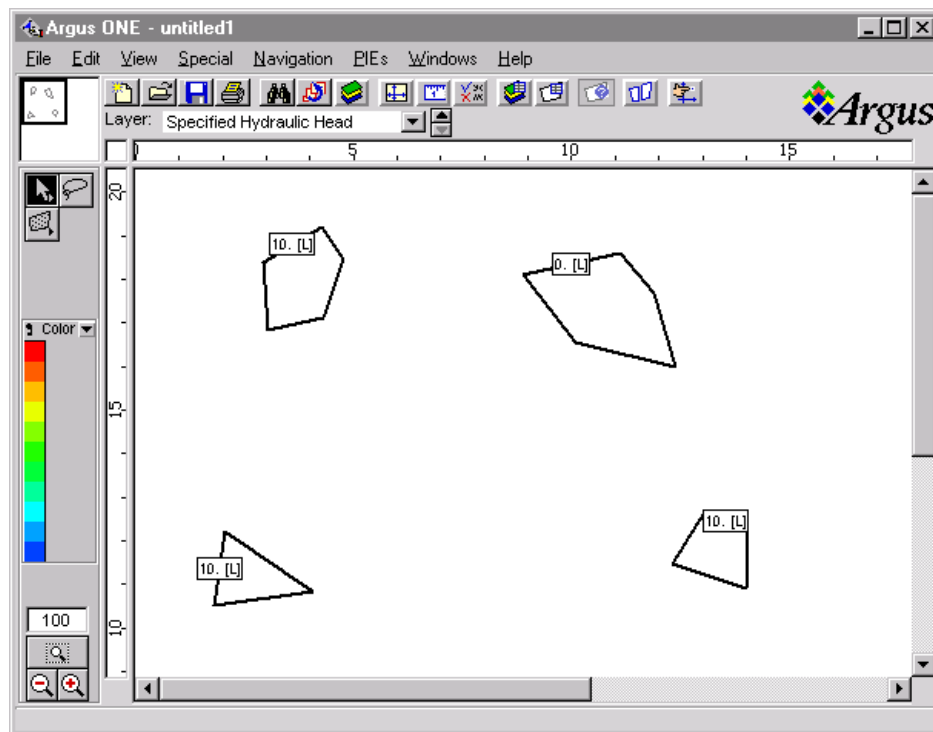

Figure 1. Lakes in Areal Ground-Water Flow Step-by-Step Example
8. Draw a lake by first activating the contour-drawing tool. To do this, click on the small quadrilateral just below the arrow along the left side of the *Argus ONE* window. Then move the cursor into the white workspace and click three times creating the first vertices of a closed contour. Try to create a lake that looks like one of the four shown in Figure 1. Then, double-click on the location desired for the last vertex. The *Contour Information* dialog appears.
10. Draw the other three lakes by clicking and dragging to create small closed regions similar to the ones shown in Figure 1. For each lake, double-click on the last vertex to close the shoreline. This brings up the *Contour Information dialog* for each lake. For two of the remaining lakes, enter 10.0 for the head, and for the last lake, enter 0.0 for the head. For all lakes, enter 0.0 for the concentration.